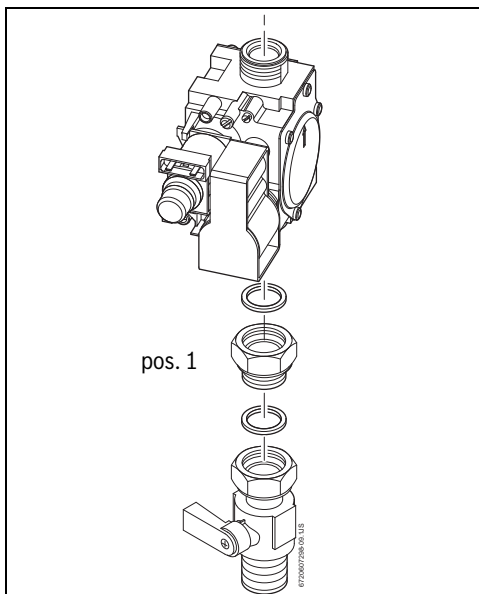

Fig. 15 Gas connection
- ▶ Assemble connector (Fig. 15, [1]) between gas valve and safety gas valve according to Fig. 15.